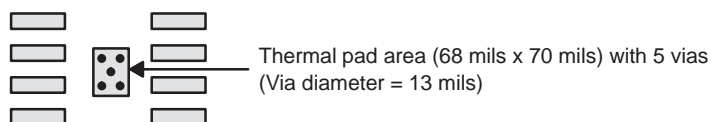

Figure 42. PowerPAD PCB Etch and Via Pattern
1. Prepare the PCB with a top side etch pattern as shown in Figure 42. There should be etch for the leads as well as etch for the thermal pad.